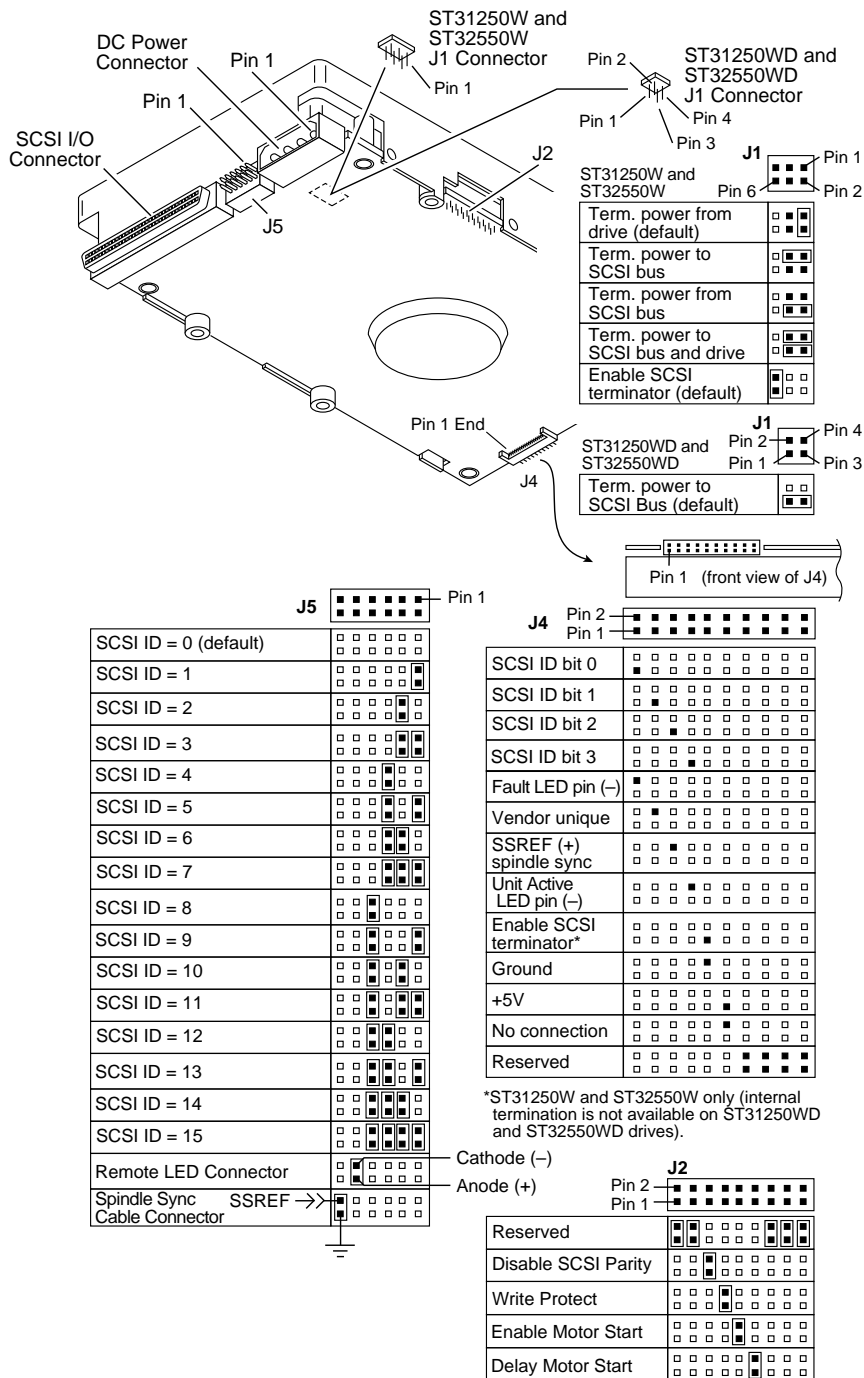

Figure 20. ST31250W/WD and ST32550W/WD jumper connectors
Figure 20 illustrates ST31250W/WD and ST32550W/WD option select jumper connectors.
*See Figure 20 to set the SCSI ID.